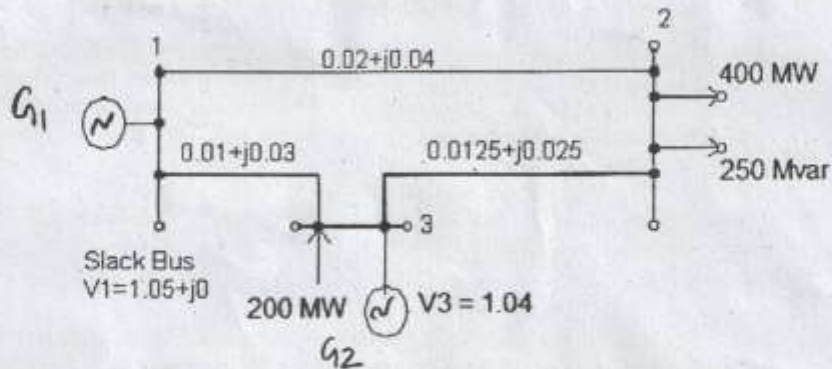

Fig. 12(b)
- (b) The Fig. 12(b) shows the one line diagram of a simple 3 bus power system with generators at buses 1 and 3. Line impedances are marked in p.u on a 100 MVA base. Determine the bus voltages at the end of second iteration using Gauss - Seidel method. (16)